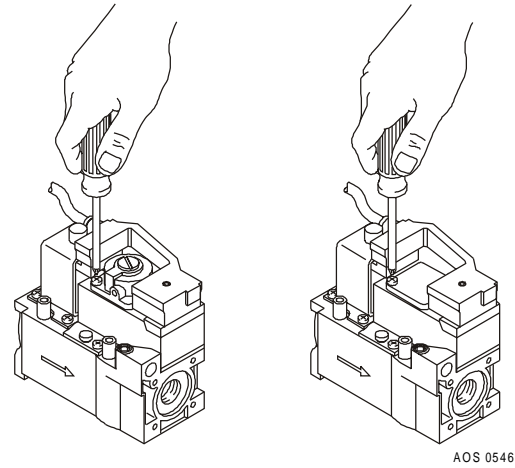

Figure 15 - mounting covering plate with sealing on the gas valve
- c. see figure 15;Converting from LP-gas to natural gas: